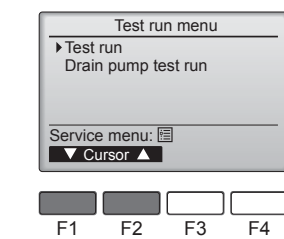

Fig. 6-4
- ④ Select "Test run" with the [F1] or [F2] button, and press the [F4] button. (Fig. 6-4)